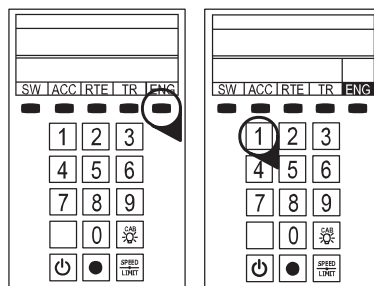

Figure 6. LEGACY engine selection
4. As illustrated in Figure 6, press ENG and 1 (or your selected ENG ID#) to address the locomotive with your LEGACY CAB-2 Remote Controller.